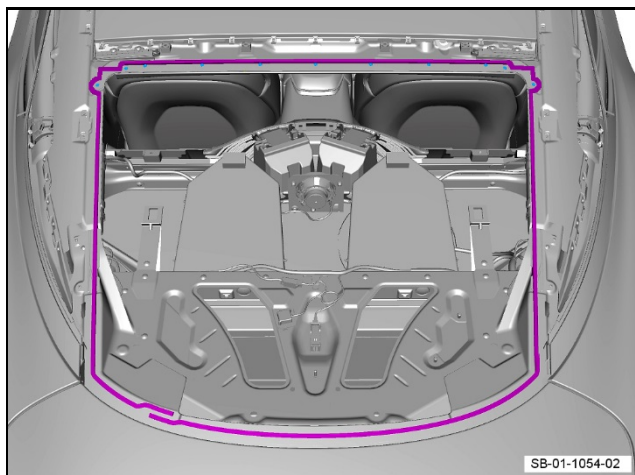

Figure 7
10. Apply sealant to the windscreen to body contact area (Refer to Figure 7).